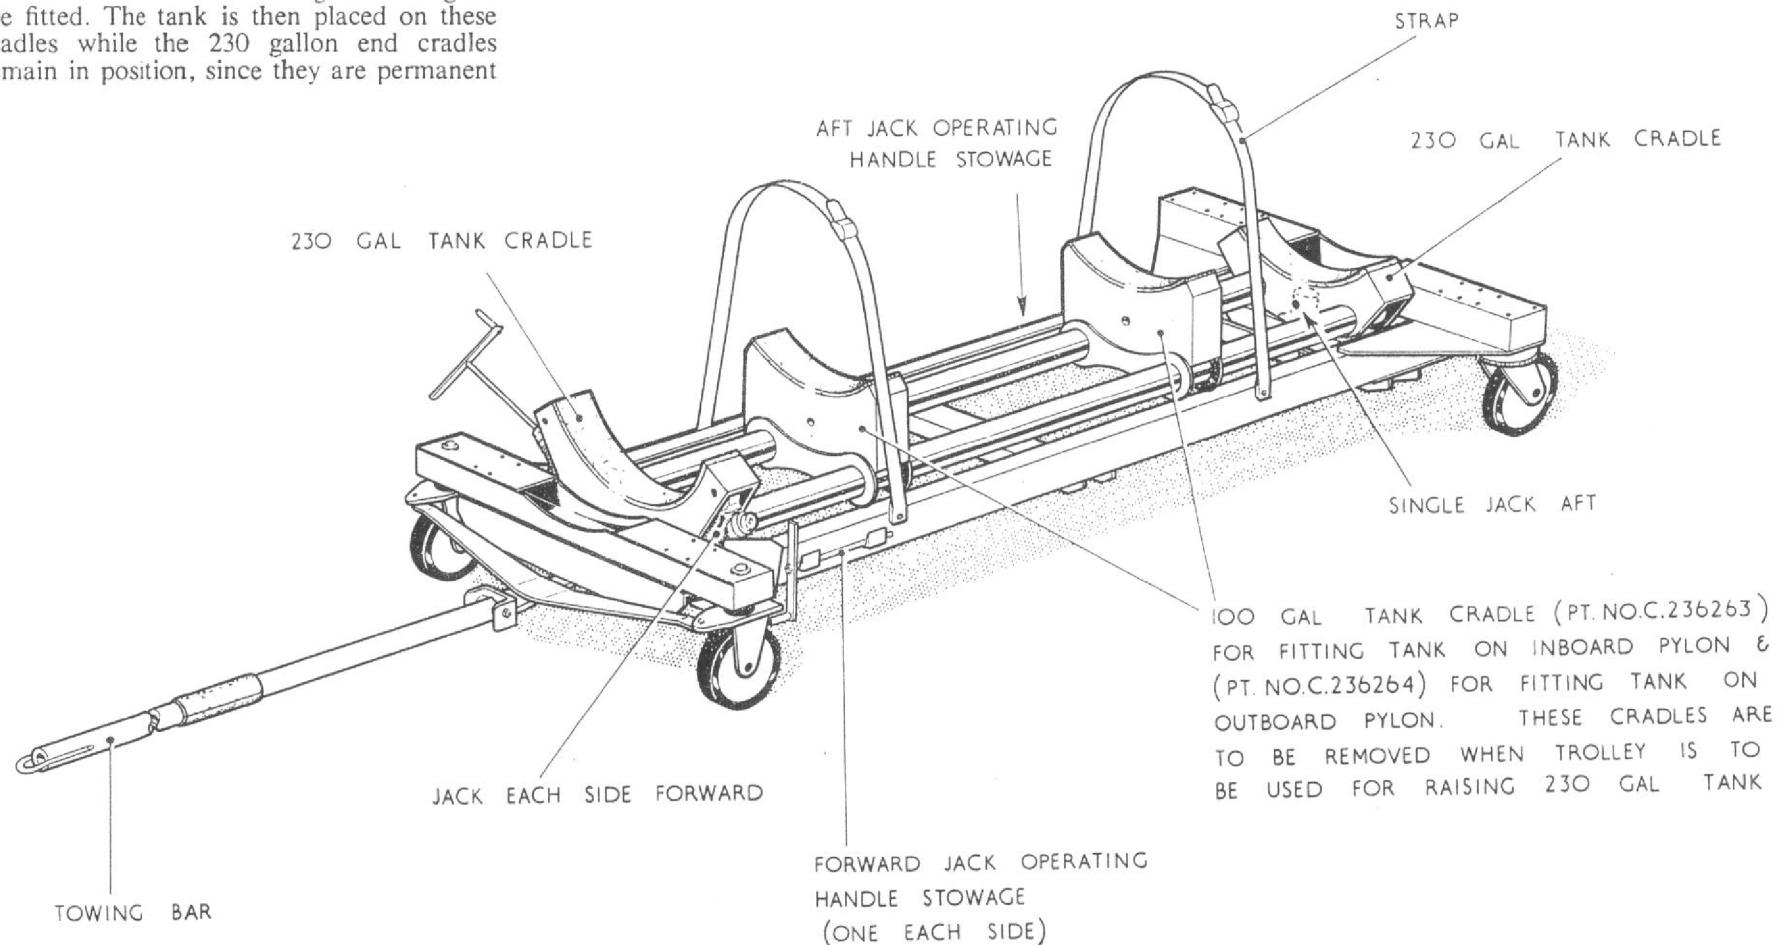

Fig. 9 Drop tank trolley
14. A trolley is provided to transport a drop tank to the aircraft. The trolley, illustrated in fig. 9, is provided with a pair of securing straps to steady the tank during transportation and these must be released before any attempt is made to raise the tank. When a 100 gallon tank is fitted on the trolley, one set of the 100 gallon alternative centre cradles (*inboard* or *outboard*), the part numbers of which are given on fig. 9, are fitted. The tank is then placed on these cradles while the 230 gallon end cradles remain in position, since they are permanent